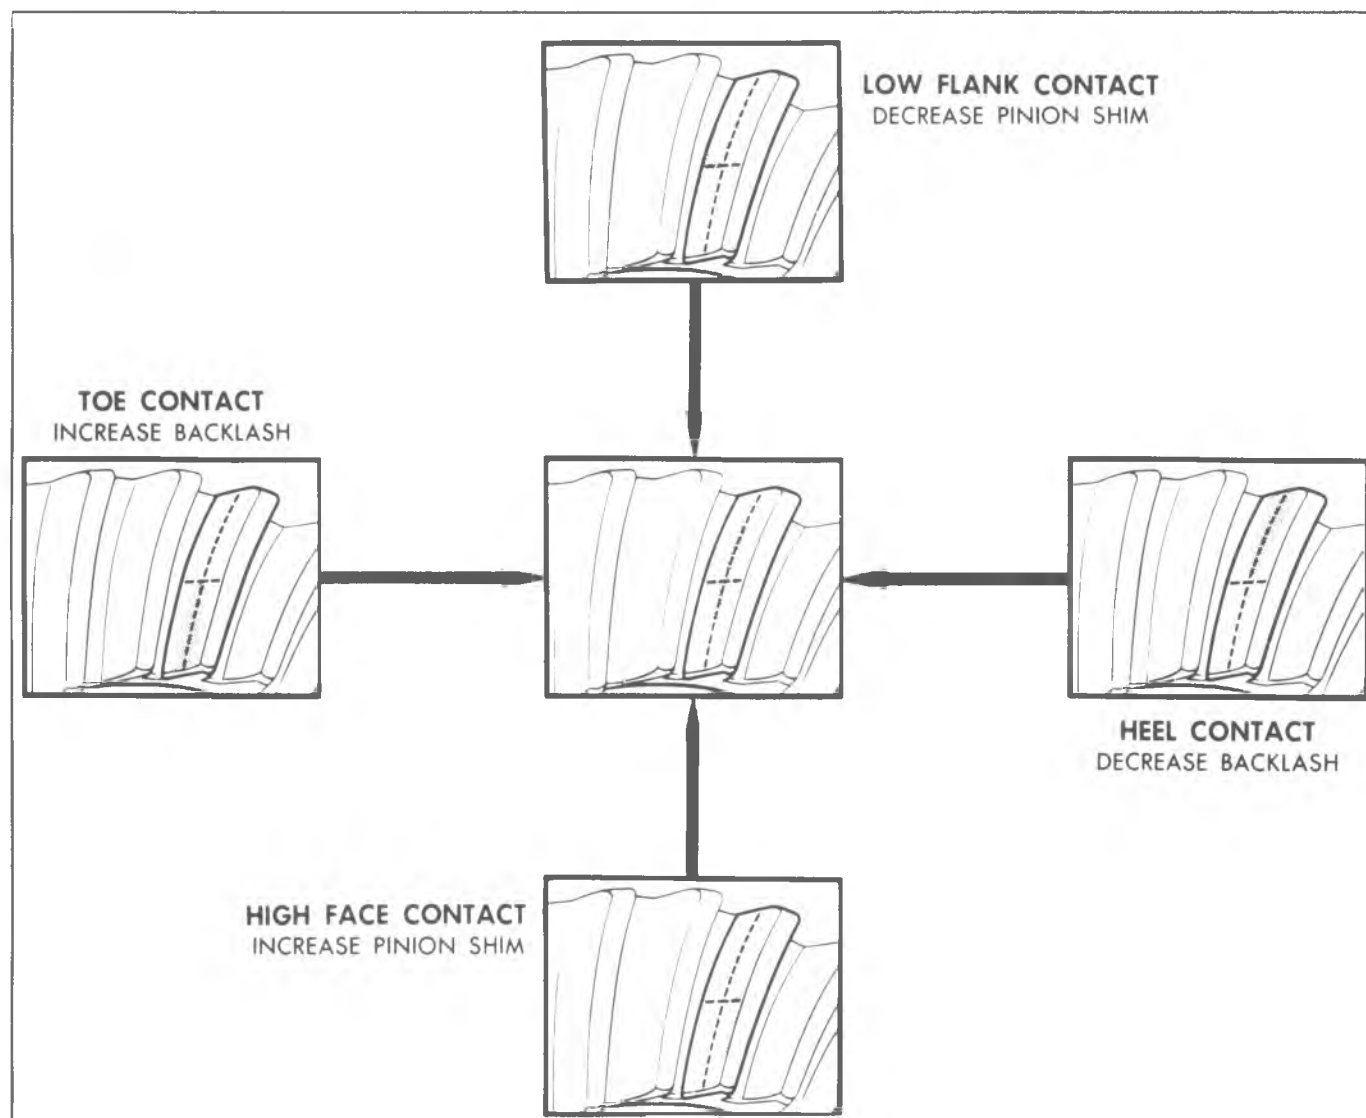

Fig. 25F--Gear Teeth Contact Pattern Check
7. Check gear tooth contact, as described earlier in "Dana 10-1/2" Ring Gear" section, under "Gear Tooth Contact Pattern Check". Refer to figure 25F.